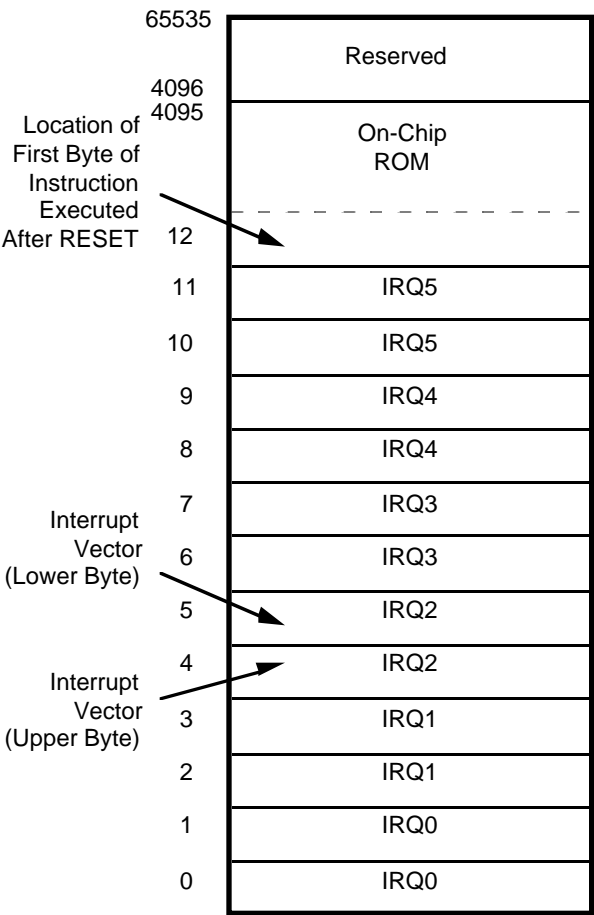

Figure 9. Program Memory Map
**Program Memory.** The 16-bit program counter addresses 4 KB of program memory space at internal locations (Figure 9).